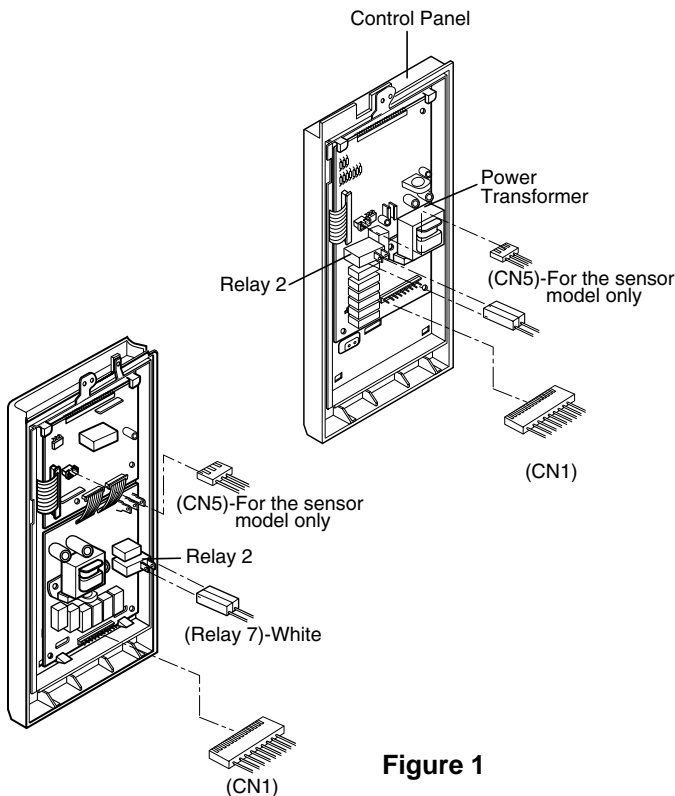

Figure 1
A. REMOVING POWER AND CONTROL CIRCUIT BOARD (Figures 1, 2 and 3)
- (1) Remove a screw securing the control panel assembly to the oven cavity.
- (2) Remove the control panel with pushing it upward.
- (3) Remove the three connectors (CN1, CN2, CN3) and wire leads (Relay7) from the circuit board.